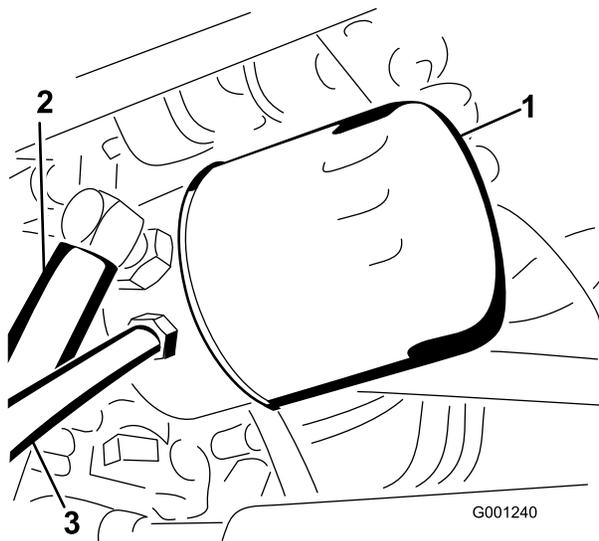

Figure 71
4. Clean the area around the hydraulic oil filter and remove the filter (Figure 71).